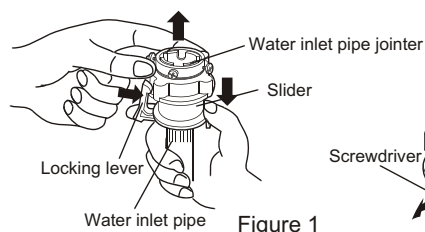
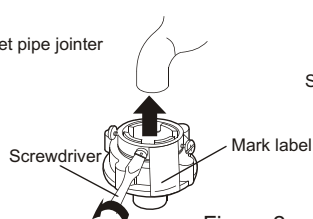
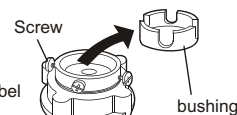

Figure 1
Figure 2
Figure 3
2. Put down the drain hose. Take off the drain hose frame. As indicated in Figure 1, put the drain hose into the cabinet. Then stretch one hand into the cabinet to nip the claw of the drain hose bushing to remove the claw from original position. Take off the drain hose bushing with the other hand. (As indicated in Figure 2 and 3).
1. Press the lower end of the lock lever and push down the slider. Take off the water inlet hose jointer from the water inlet hose component. See to Figure 1.
2. Loosen the screw till the water tap can be accessed. Put the jointer of the water inlet hose on the tap. See to Figure 2. (If the tap diameter is too large and the jointer can not be set on the water tap, please loosen the four screws and take out the bushing in the jointer. See to the figure 3.)